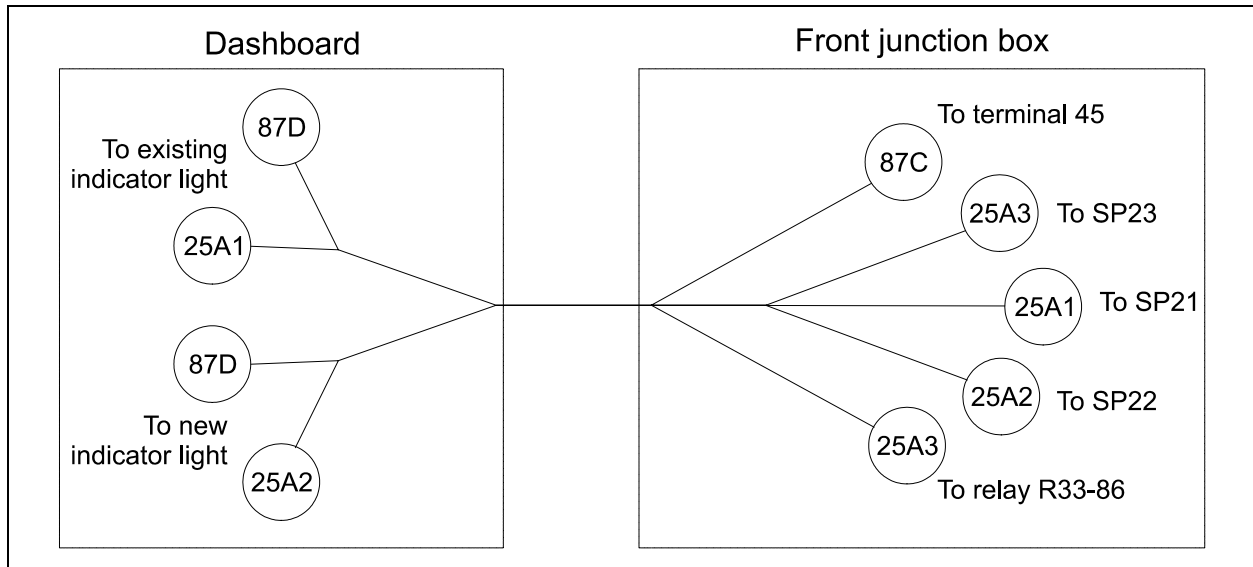

FIGURE 20: INSTALLATION OF CABLE HARNESS #065240
3. From cable harness #065240, connect wire 87D and 25A1 to the existing “not charging” indicator light (refer to figure 20);
6. In the front service compartment junction box (refer to figure 20), connect wire 87C to terminal 45;
13. In the rear junction box (refer to figure 20), connect wire 25A4 from cable harness #065241 to terminal 45;